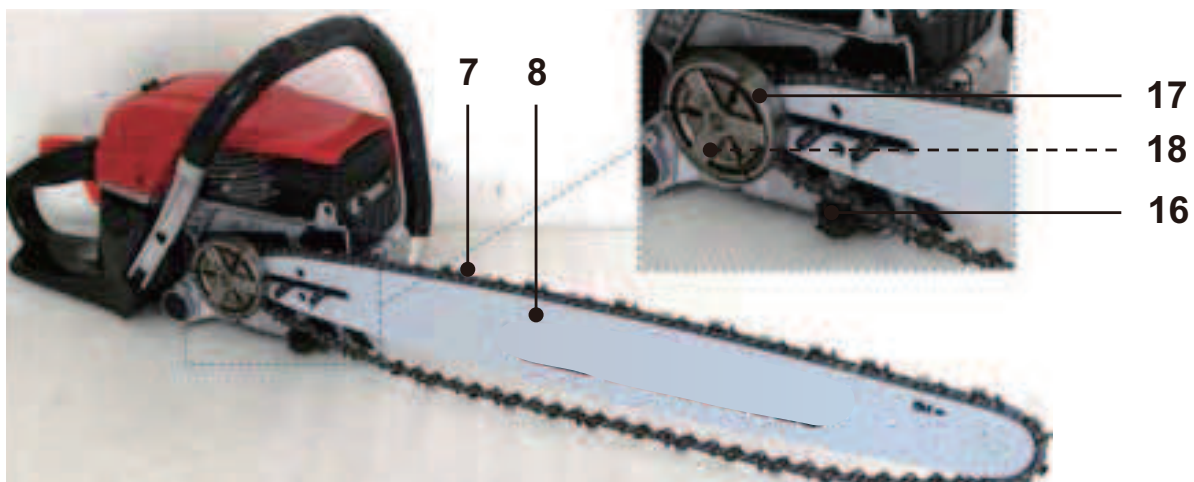

Fig. 4
- Place the saw chain (7) over the drive sprocket (18) (behind the clutch (17)) and fit around the guide bar (8). Make sure the saw chain is placed above the chain catcher (16) (Fig. 4).